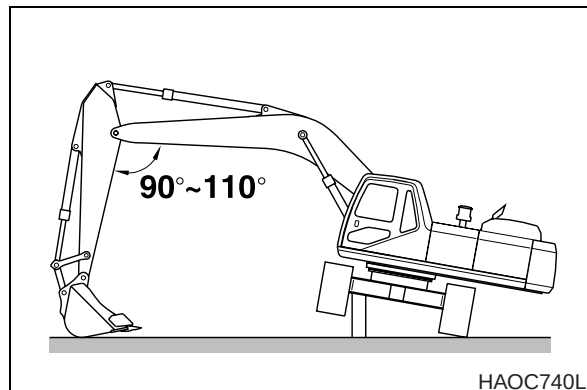

**Figure 36**
6. Install the collar (3, Figure 36), O-ring (2), and pin (1) on the remaining side.